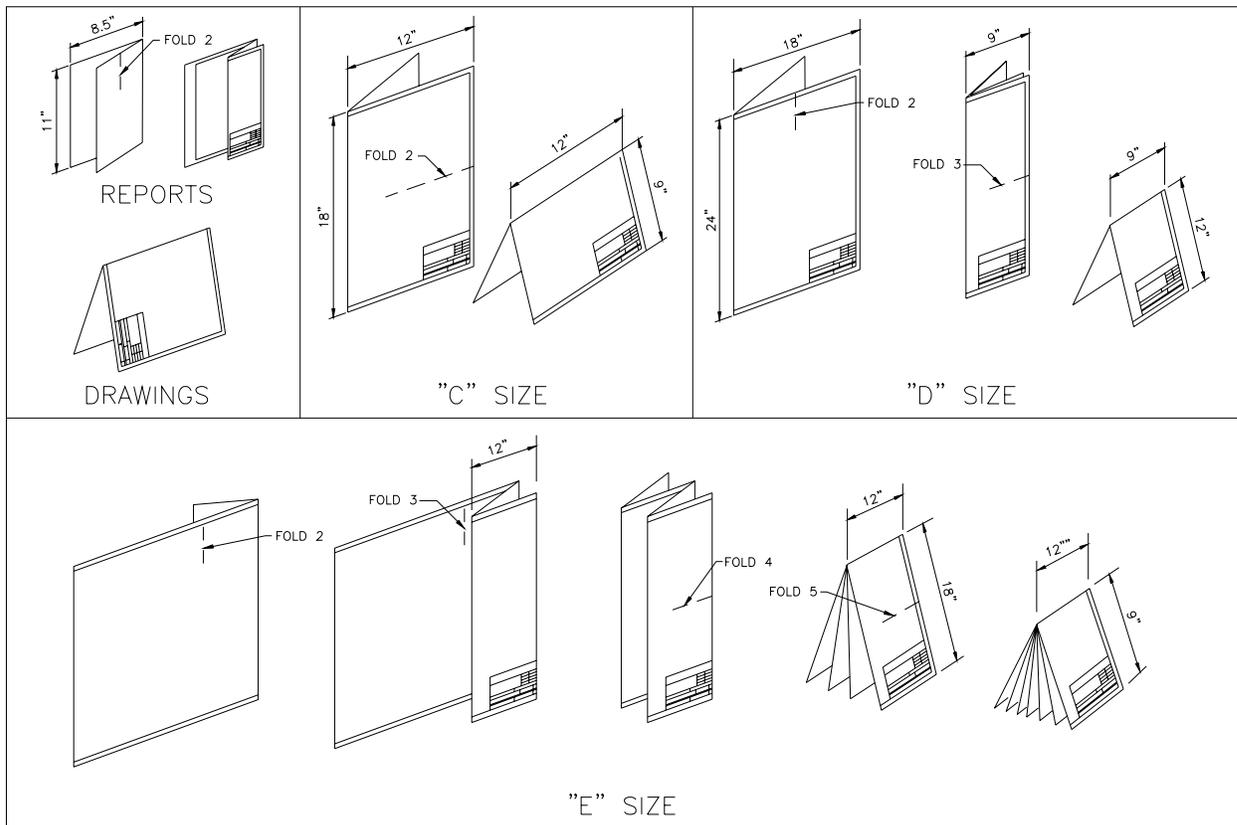

Figure 216-1
A. Guidance: Drawing sizes "B" through "E" and roll sizes are normally folded after printing to 8 1/2 x 11 inches to fit standard-size file folders and filing cabinets. See Figure 216-1